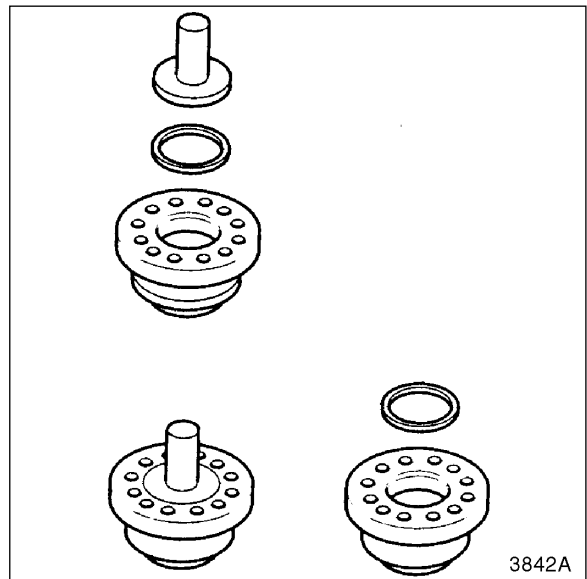

Figure 23
9. Use a seal installing jig to install dust seal into cylinder head. See Figure 23. Install snap ring.